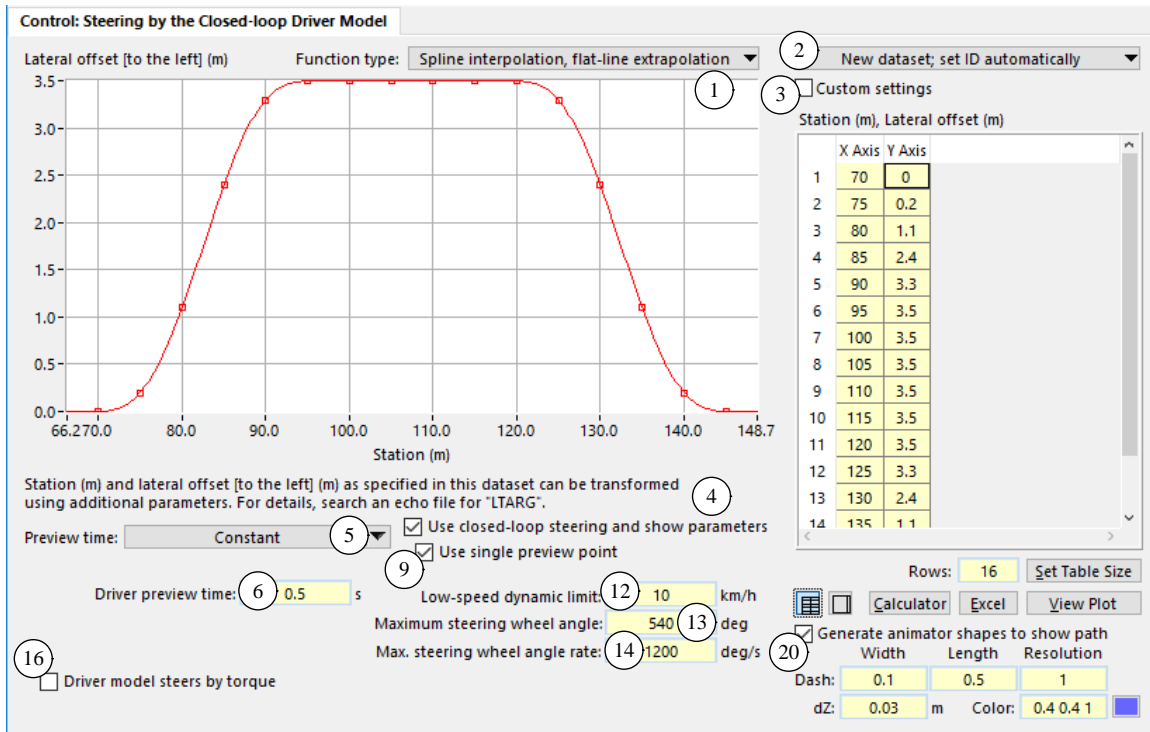

Figure 19. Library screen for steering by the closed-loop driver model.
DM is usually configured using the library screen shown in Figure 19. The top part of the screen shows a lateral offset associated with the LTARG Configurable Function. The bottom part shows properties of the DM controller.
When the drop-down list is set to **Constant** (Figure 19) the preview time is constant as specified in a yellow field (6).
- (6) Constant preview time (keyword = TPREV\_CONSTANT). This field is shown only when the drop-down control (5) is set to **Constant** (Figure 19).
LTARG\_ID\_DM is the ID number of the LTARG dataset used by the driver model. It has a default value of 1, and can be set to any positive number up to N\_LTARG, or to any value that matches the LTARG\_ID of an existing dataset. If set to zero then the lateral offset from the path stays at zero. The LTARG\_ID\_DM value can be overridden by specifying a value after several LTARG datasets have been created to assign a specific target to the driver model. LTARG\_ID\_DM may also be changed during a VS Event. As described earlier (page 5), the custom ID option ② (Figure 19, page 26) is recommended if multiple LTARG datasets will be used in a simulation.